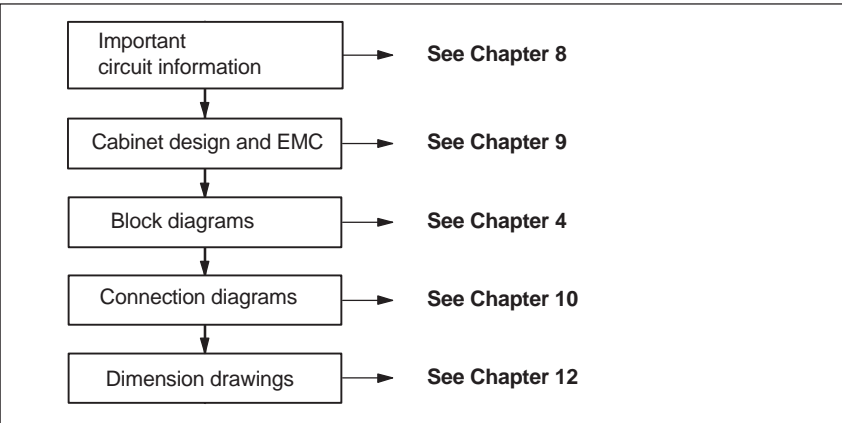

Fig. 1-5 Connecting-up
- Phase 2 Connection configuration (refer to Fig. 1-5)